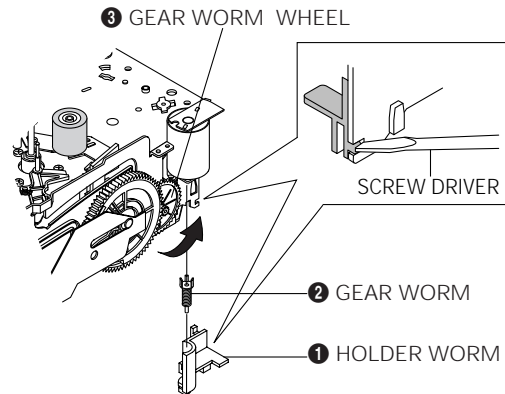

Fig. 4-32
4. Rotate Gear Worm Wheel ❸ counterclockwise using screw driver, up to the state of eject mode, and then pick out the tape. (Refer to Fig. 4-32)